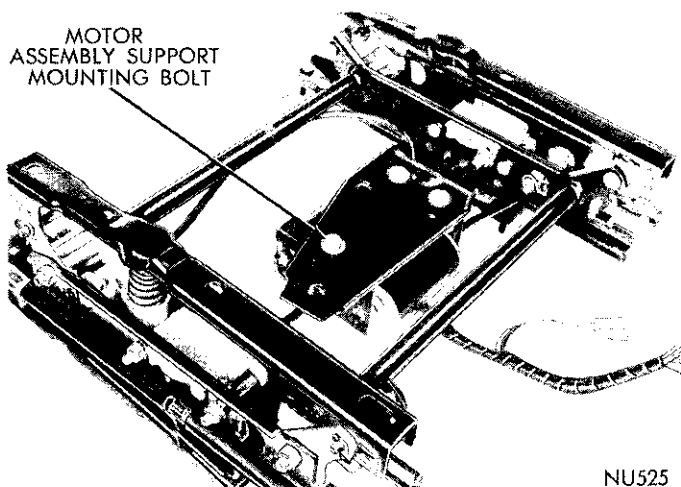
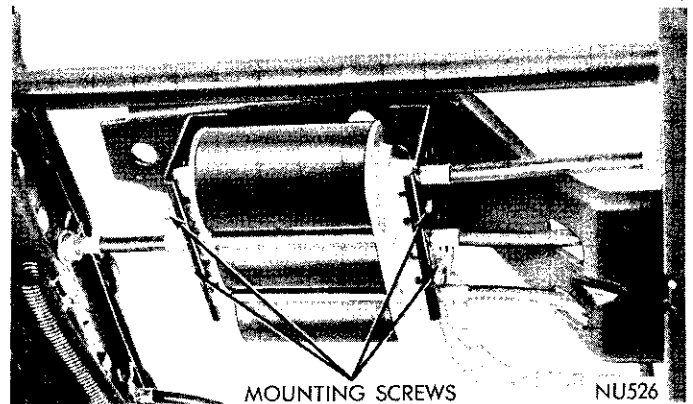

Fig. 3—Mounting Bolt Location
Fig. 4—Motor Mounting Screw Locations
(1) Remove seat assembly from vehicle following procedure outlined under "Seat Assembly and Adjuster."
(2) Lay seat assembly on its back on some clean object.
(3) Remove bolt which holds motor to support (Fig. 3). Then remove mounting (Fig. 4) screws.
(4) Carefully disconnect housings and cables from motor assembly.